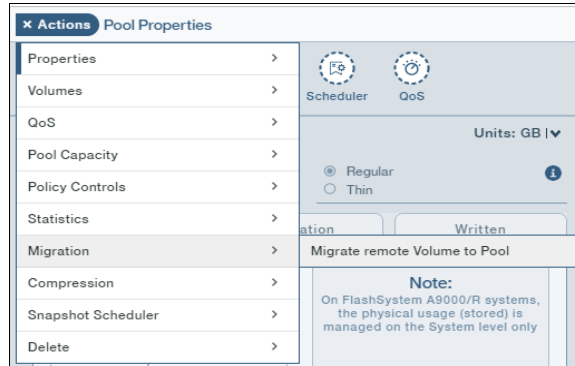

Figure 8-17 Selecting Pool for Migration in IBM FlashSystem A9000
1. In the Hyper-Scale Manager GUI, select an existing pool or create a pool to use for the migrated volumes and then select **Actions** → **Migration** → **Migrate remote volume to Pool**, as shown in Figure 8-17.